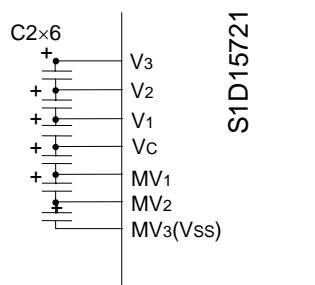

Fig.6.11
- *3: Connection of the liquid crystal drive voltage stabilizing capacitor C2 can be made by the method shown in Fig.6.11 ⑤, however, the capacity value and the connection method may affect the display quality. Display the pattern of high load in the actual equipment and carefully evaluate it before determining it.